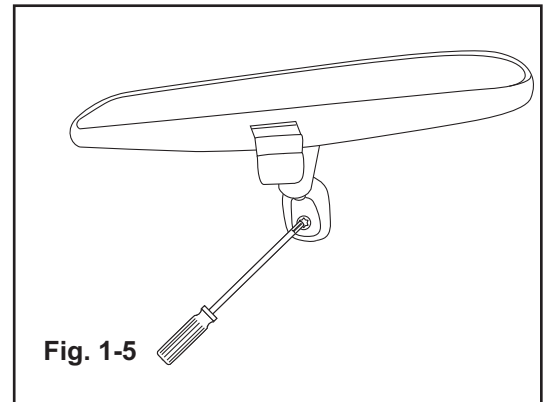

Fig. 1-5
- a) Using a #T20 Torx, loosen the mirror mounting bracket screw. (Fig. 1-5)